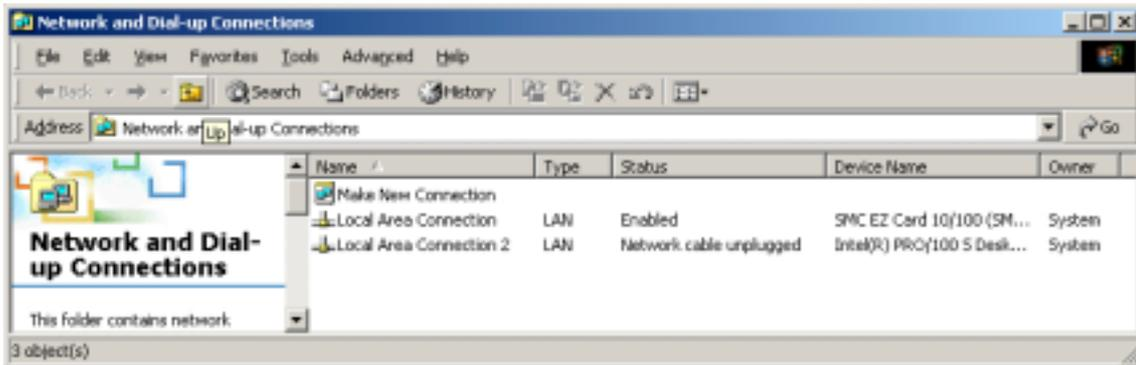
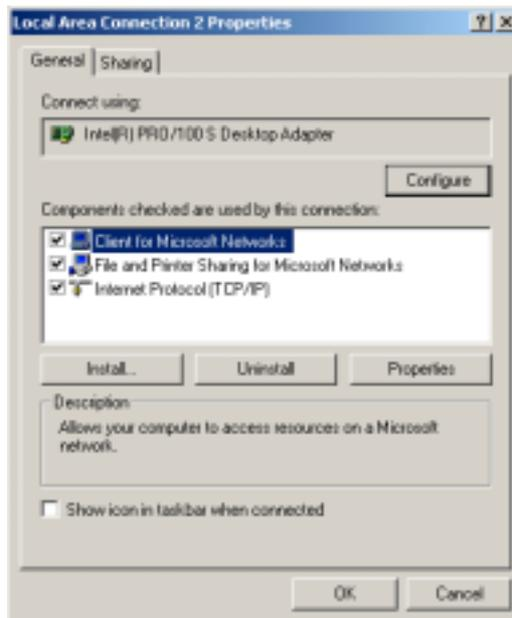
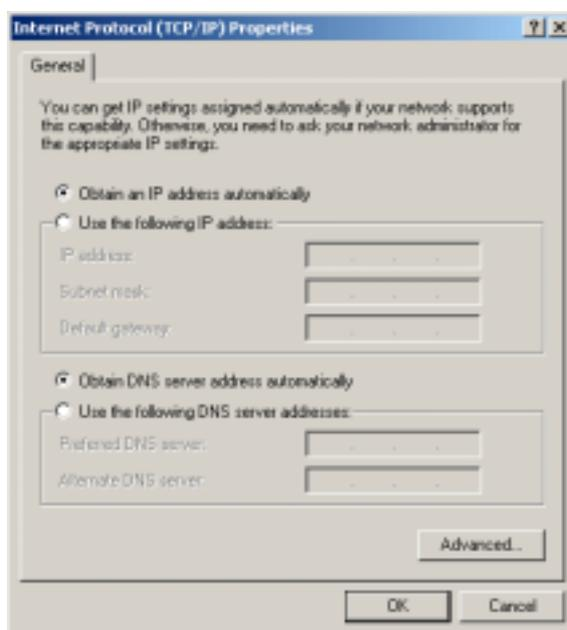

Figure 1 Network and Dial-up Connections dialog box
Figure 2 Local Area Connection 2 Properties dialog box
Figure 3 Internet Protocol (TCP/IP) Properties dialog box
- 2 Right click on the icon "My Network" on the desktop, and select "Properties" from the popup menu. A "Network and Dial-up Connections" dialog box (Figure 1) will appear.
- 3 Confirm that the network card used to connect to the C1 controller appears in the name field in the Network and Dial-up Connections dialog box (Figure 1). After confirming that the network card is registered, right click on its name. Select "Properties" from the popup menu to display the "Local Area Connection 2 Properties" dialog box (Figure 2).
- 4 Select “Internet Protocol TCP/IP” on the “Local Area Connection 2 Properties” dialog box (Figure 2) . The “Internet Protocol (TCP/IP) Properties” dialog box (Figure 3) will appear.
- 5 Set the IP address and subnet mask just as shown on the “Internet Protocol (TCP/IP) Properties” dialog box (Figure 3) .